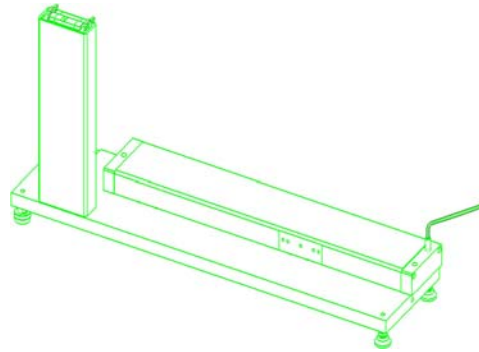

Figure 18. IFC PAL Support Leg Transport Lock
- 1 Open the transport locking screw using the supplied Allen Key. See Figure 18.